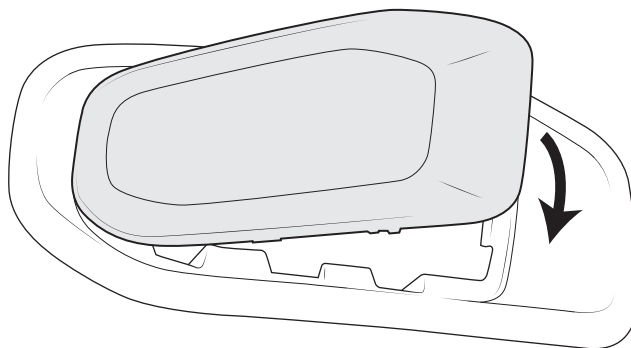

Figure 31
- B. Install factory bezel or block off cover into the AEV bezel, then secure with the factory square head bolts and 10mm nuts saved from step 5 of Disassembly (fig. 31).